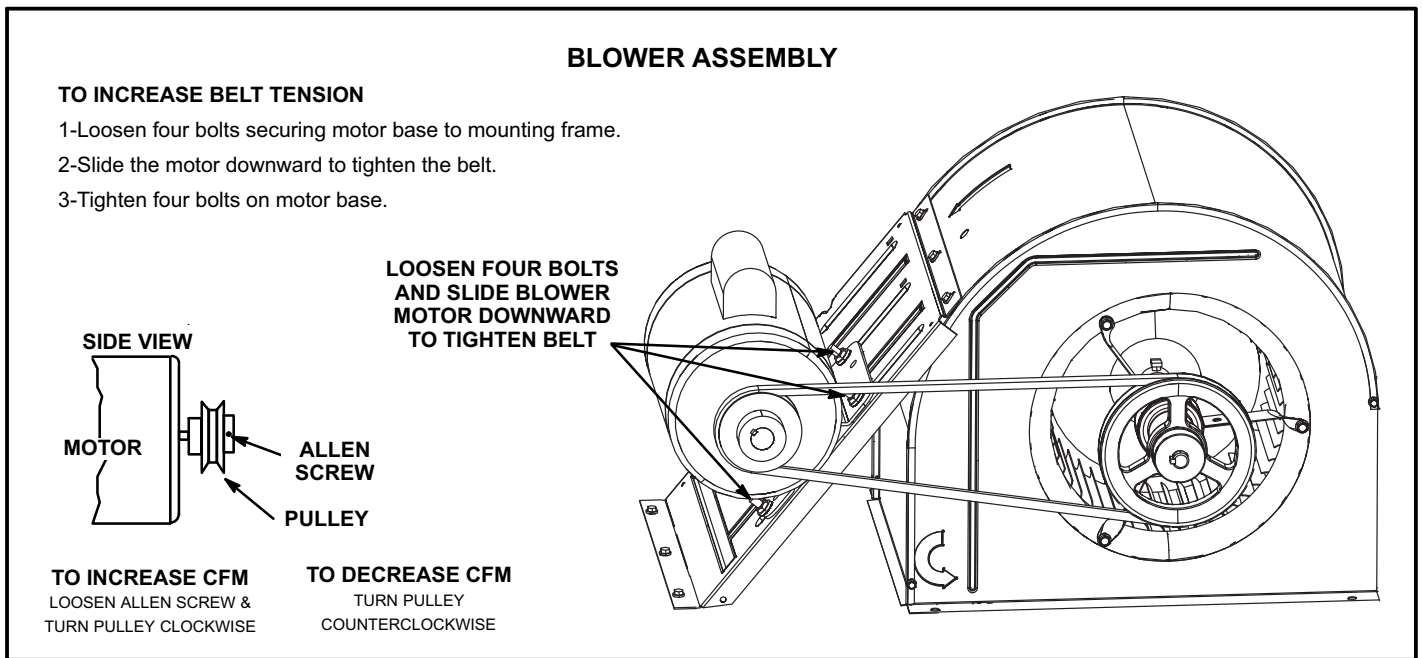

FIGURE 7
- 4- The blower RPM can be adjusted at the motor pulley. Loosen Allen screw and turn adjustable pulley clockwise to increase CFM. Turn counterclockwise to decrease CFM. See figure 7. Do not exceed minimum and maximum number of pulley turns as shown in table 4.
- 1- Loosen four bolts securing motor base to mounting frame. See figure 7.